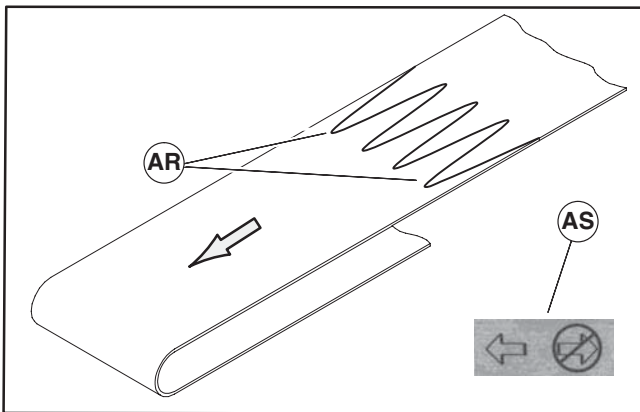

Figure 23
1. Orient belt so splice leading fingers (Figure 23, item AR) point in the direction of belt travel as identified by the conveyor directional label (AS).
2. Orient belt so splice leading fingers (Figure 23, item AR) point in the direction of belt travel as identified by the conveyor directional label (AS).